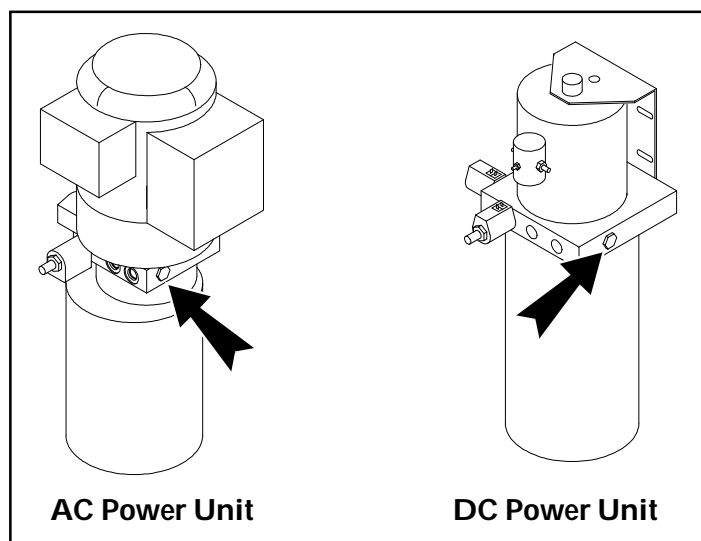

Figure 4-4: System Relief Valve
## 4.4 Setting System Relief Valve (Figure 4-4)
3. Remove the cap from the System Relief Valve (fig. 4-4), and turn the adjustment screw counter-clockwise two full turns.
5. Turn the System Relief Valve Clockwise (fig. 4-4) until the machine begins to rise.